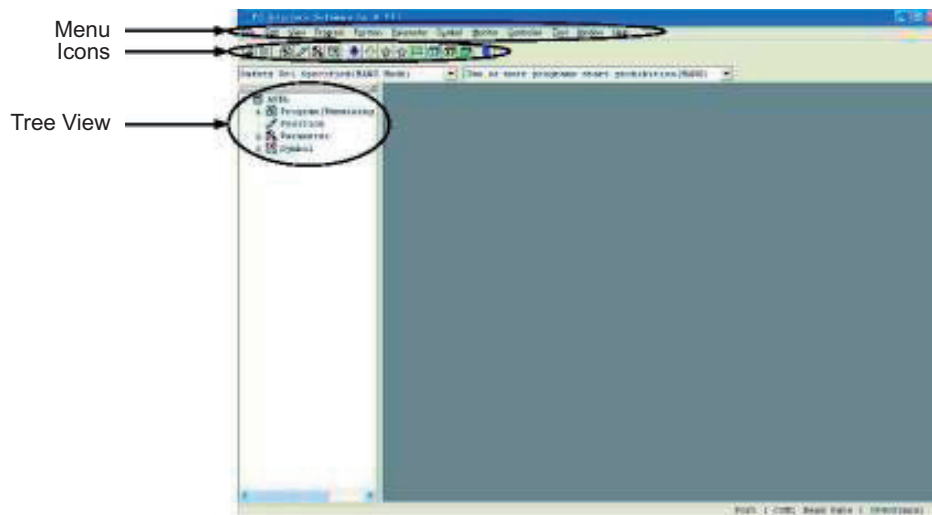

Fig. 3.7 Online Screen (ASEL Controller)
When this software has been started, the main window in Fig. 3.7 will open showing the menu items with icons on the tool bar in the case of the ASEL controller. The tree view appearing on the left side of the window can be displayed by clicking **View (V)** from the menu bar and then selecting **Tree View (T)**. (Initial window: Main menu)